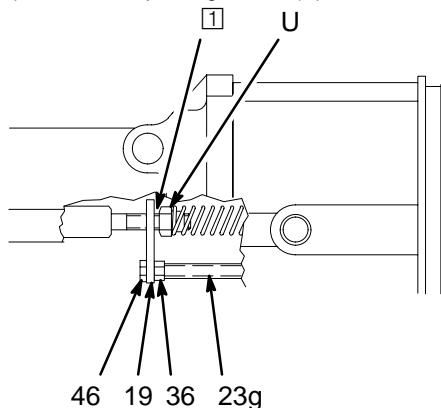

Fig. 32
- a. Install the adjustment nut (36), actuator arm (19), and jam nut (46) onto the piston rod (23g). See Fig. 32.
**NOTE:** The jam nut (46) has a slightly larger hex and a thinner profile than the adjustment nut (36).
- b. Thread the jam nut (46) flush with the end of the piston rod (23g). Tighten the adjustment nut (36) against the actuator arm (19). When properly assembled, there should be about a 0.125 in. (3 mm) gap between the actuator arm (19) and the fluid packing rod nut (U), which allows the atomizing air to actuate before the fluid actuates. See Fig. 32. In addition, there should be 3 to 4 mm of electrode needle travel when the gun is triggered. If necessary, adjust the jam nut (46) position to obtain these dimensions.
- 1 There should be a 0.125 in. (3 mm) gap between the actuator arm (19) and the fluid packing rod nut (U).